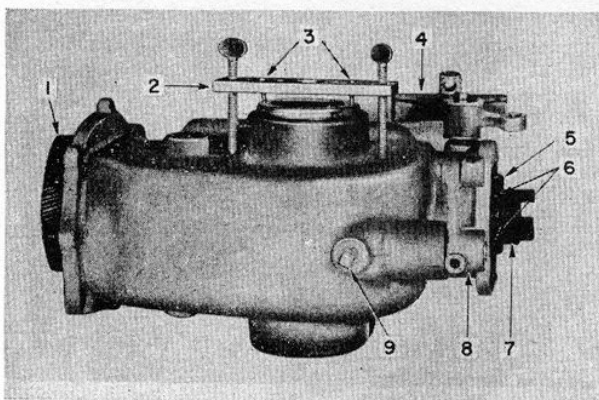

FIG. 35—REMOVING TRANS. OIL SEAL
- a. Remove oil seals by drilling two 1/8" holes, and inserting self-tapping screws through Puller GP-12 as shown in figure 35.